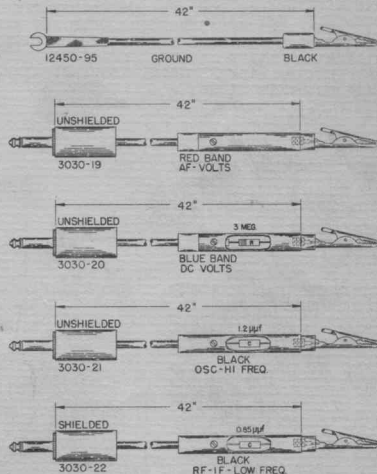

Figure 1.3 Test Leads
d. **Components** - An 8 ft. a-c power line cable is permanently attached to the unit. The speaker has a permanently attached cable with a plug on the free end for connection to the MONITOR jack when the speaker is in use. In addition, five separate leads, as shown in Figure 1.3, are furnished: